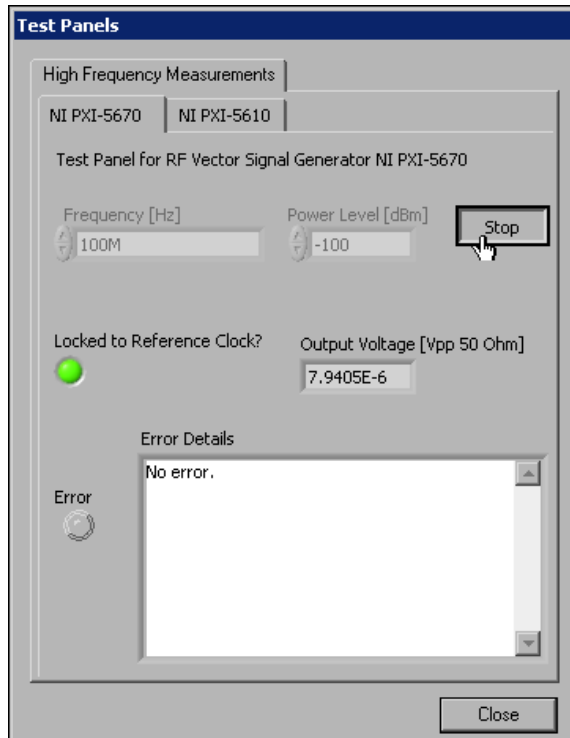

Figure 1-22. The NI PXI-5670 Test Panel during Signal Generation
21. During signal generation the ACTIVE LEDs on both NI 5670 hardware modules are activated and the test panel is displayed as shown in Figure 1-22.